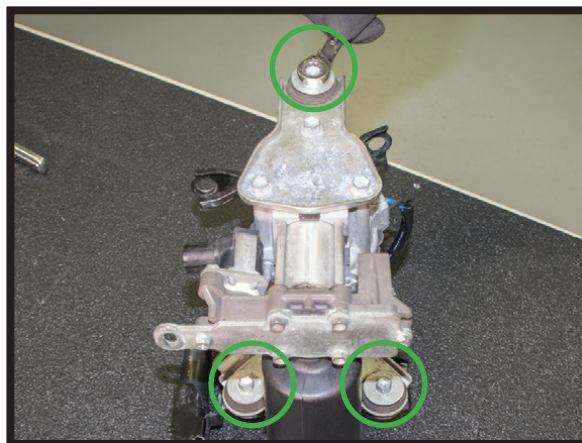

FIGURE 11
1. LOOSEN AND REMOVE THE THREE BOLTS FROM THE COMPRESSOR BRACKET AND SAVE THE TWO UNDERLYING RUBBER MOUNTS FOR LATER USE. (FIGURE 11)